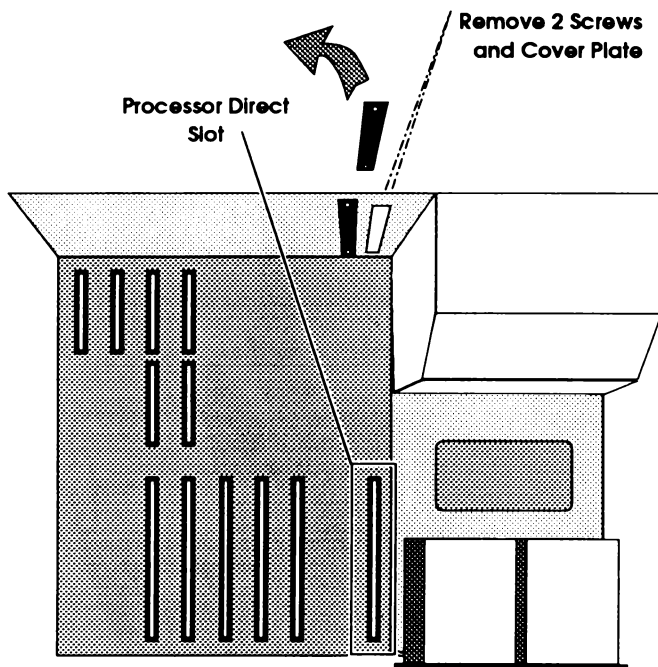

Figure 4.15 – Processor Slot location.
The '030 Combo board uses the A2000's Processor Direct slot (*see Figure 4.15*). This is the multi-pin bus connector closest to the Drive Stage. There is only one way the board can fit into this slot.
- 4) Remove 2 screws and cover plate from rear panel (*see Figure 4.15*).